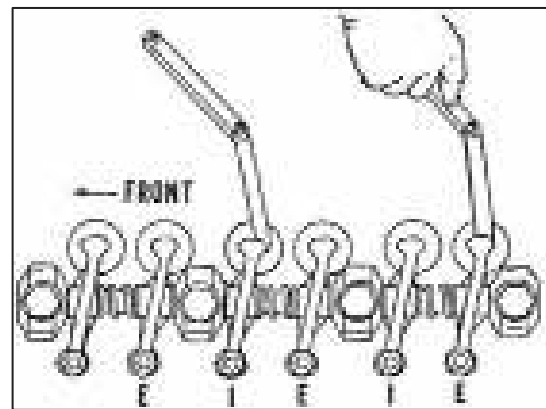

Fig. C2.60
2. Bring first piston to TDC in exhaust stroke. This can be achieved by repeating the same procedure as mentioned above. At this position adjust tappets 3 and 6 as shown in the figure C2.60.